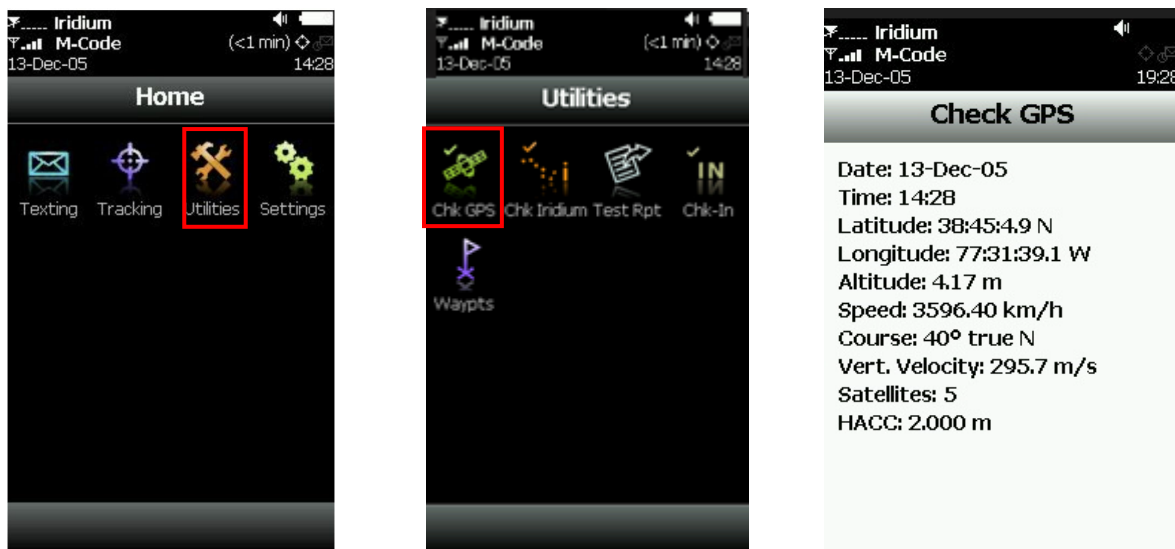

Figure 9: Navigate to Check GPS Screen
4. Press **Utilities** on the *Home* screen (see **Figure 9**).
The *Utilities* screen displays (see **Figure 9**).
The *Check GPS* screen displays (see **Figure 9**).